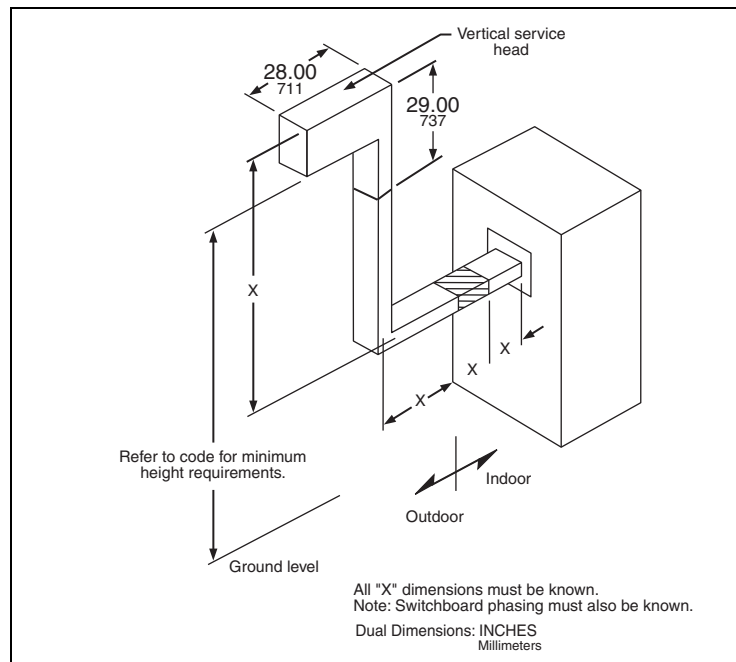
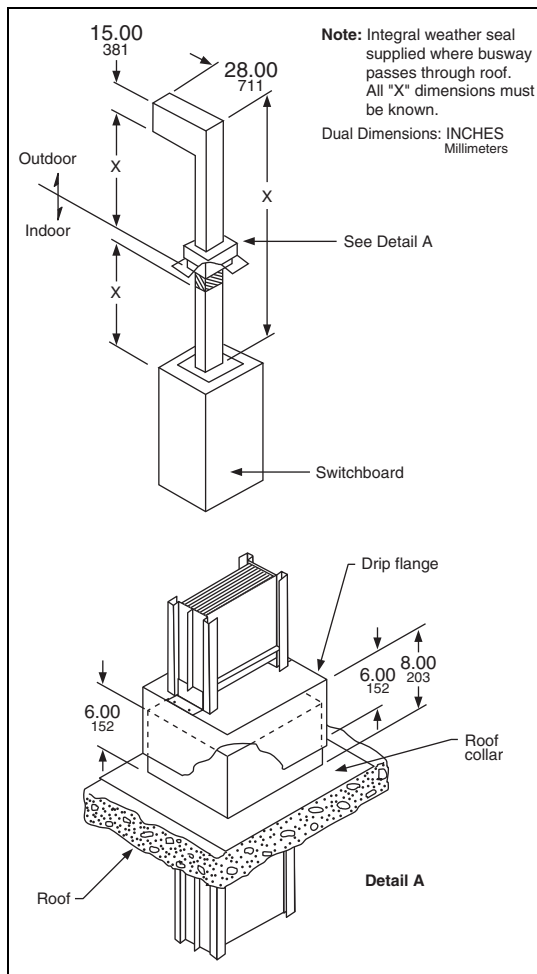

Figure 16: Typical Vertical Service Head Application
Figure 17: Vertical Service Head Penetrating a Roof
If the flatwise busway elevation is too low to allow a cable connection that would comply with the electrical code, the vertical service head (SV) could solve this issue. The SV is attached to busway that exits the rear of the switchboard and is turned upward (see Figure 16) or is attached to busway that exits the top of a switchboard and extends through the roof (see Figure 17 on page 27).
If a vertical service head extends through a roof, the roof must be sealed around the busway. To do this, a fixed collar must be factory assembled onto the section of busway that penetrates the roof. The contractor can then install flashing from the collar to the roof. A roof flange kit can be ordered from the factory to make the flashing job easier. The kit consists of a drip flange and a roof collar. When installed, the roof collar must be sealed to ensure that no moisture gets indoors. The roof flange kit will accommodate a roof slope up to one inch per foot. See Detail A in Figure 17 on page 27.